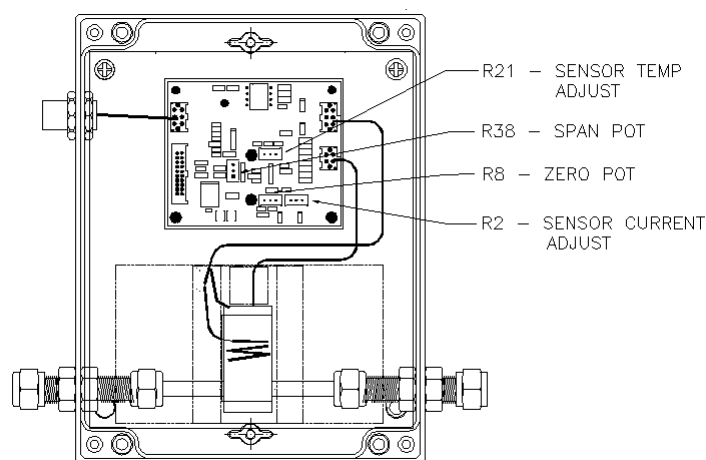

Figure 3-5: Temperature and Calibration Adjustment Location
Calibration involves setting the zero level followed by setting the span of the instrument. Zero and span potentiometers are located under the cover of the transmitter on the PC board as shown in Figure 3-5.
4. If the read-out device indicates a value different than the known concentration, adjust the span potentiometer (R38) as shown in Figure 3-5 until the readout is correct. If using a mA current read-out device, refer to Table 3-1 to determine concentration from the output current.